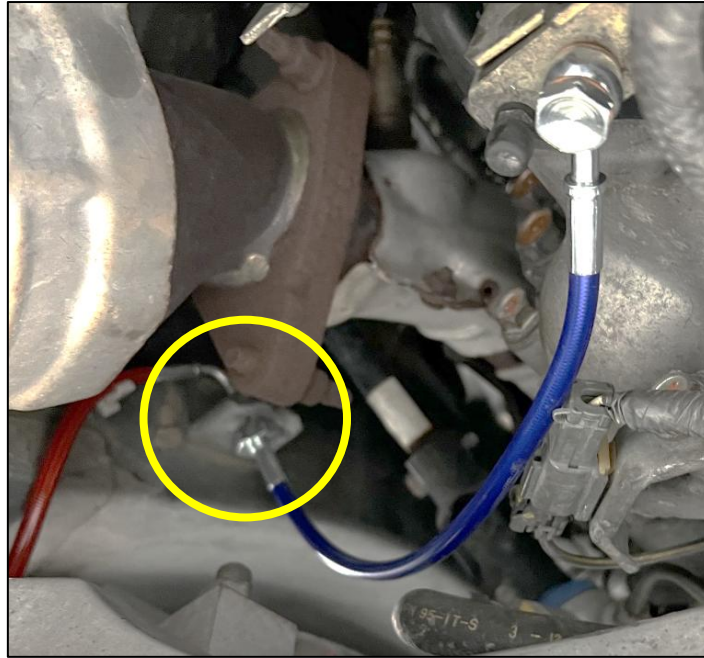

Figure 11
14. Connect the Lower Clutch Hose to the threaded end of the Upper Clutch Line. A Z1 Lower Clutch Line is shown below. *Figure 11.*